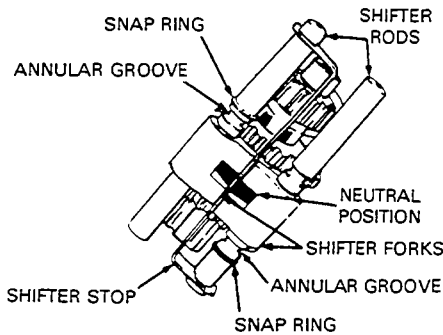

Fig. 1—To position shifter assembly in neutral for reassembly, align notches in shifter forks with notch in shifter stop.
Clean and inspect all parts for damage or excessive wear and renew as required. When installing needle bearings, press bearings into case and cover from inside until bearings are 0.015-0.020 below thrust surfaces. Renew all seals and gaskets and reassemble transaxle assembly by reversing disassembly procedure and noting the following points: Install reverse idler gear (27) in case so that rounded edge of gear teeth and spacer (26) will be toward cover. When installing idler shaft (31), place short spacer (35) between gears (34 and 36) and long spacer (33) between gears (32 and 34). Bevels on gear teeth of gears (32 and 34) must be on side of gear nearest large gear (36). When installing shifter assembly, position shifter rods in neutral position as shown in Fig. 1.